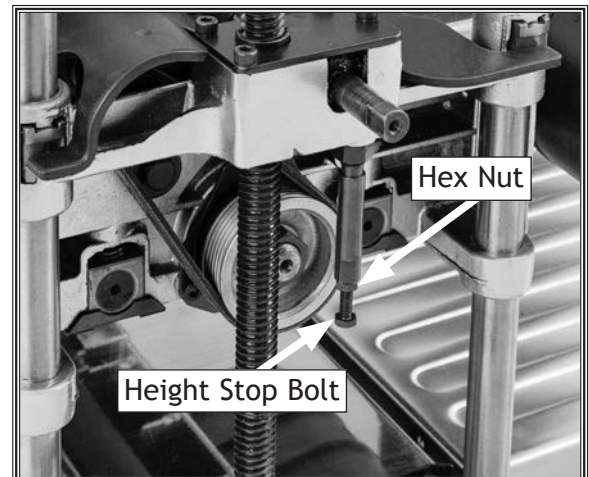

Figure 36. Depth stop height components.
4. Loosen hex nut (see **Figure 36**) and adjust height stop bolt up or down to increase or decrease depth of cut.